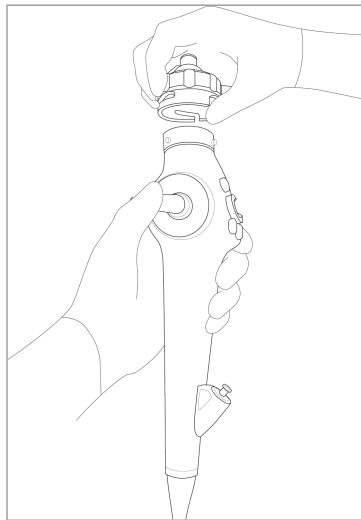

Fig. 7.1
1. When carrying out ethylene oxide gas sterilization, the waterproof cap must be removed from the operating section interface (as shown in Fig. 7.1).
Make sure that the waterproof cap is free of scratches, cracks and debris (as shown in Fig. 7.1).